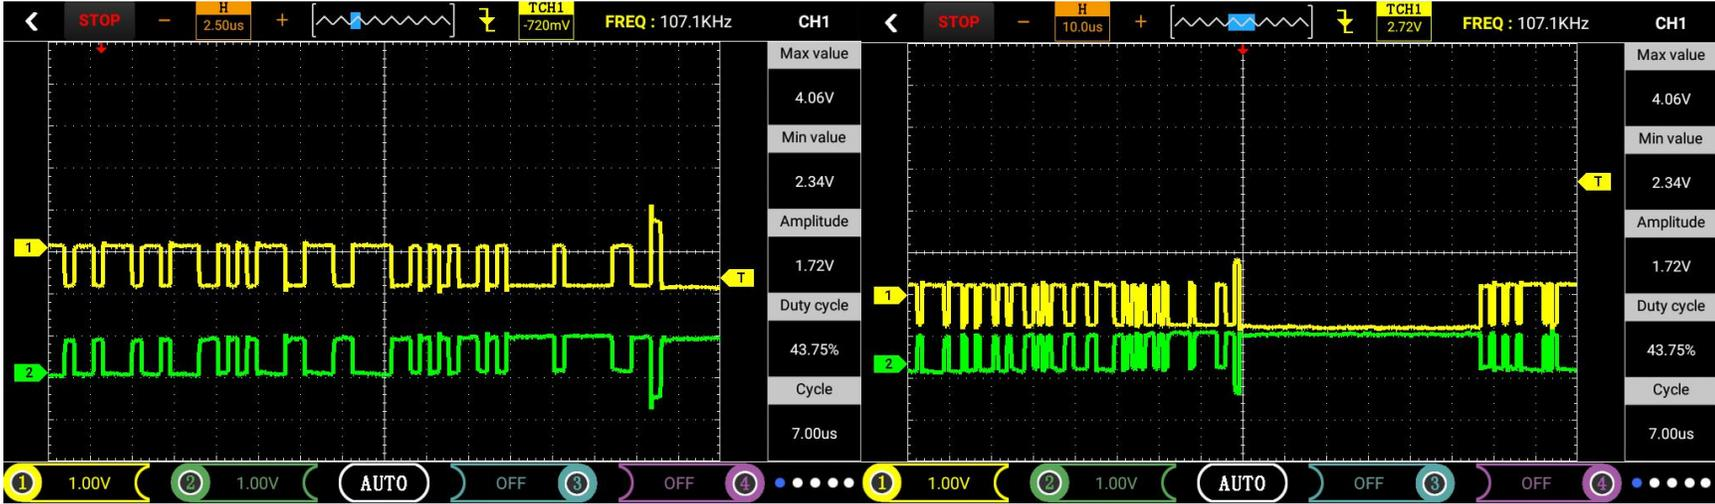

Figure 21
① After the tablet oscilloscope is turned on, click on the Han Han electronic icon, then enter the main menu of Jinhan electronic instrument, as shown in Figure 21.